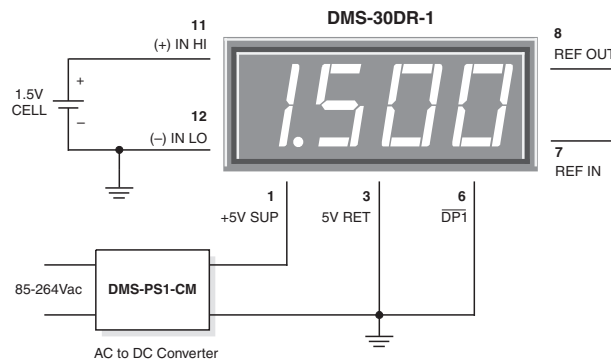

Figure 5. Floating Input Measurements
- 4. Floating Signal Source Measurements:** Floating signals can be measured using the circuits shown in Figures 5 and 6. Connecting pin 10 (ANALOG COMMON) or pin 3 (5V RETURN) to (-) INPUT LO (pin 12) provides the reference point for the meter's input.